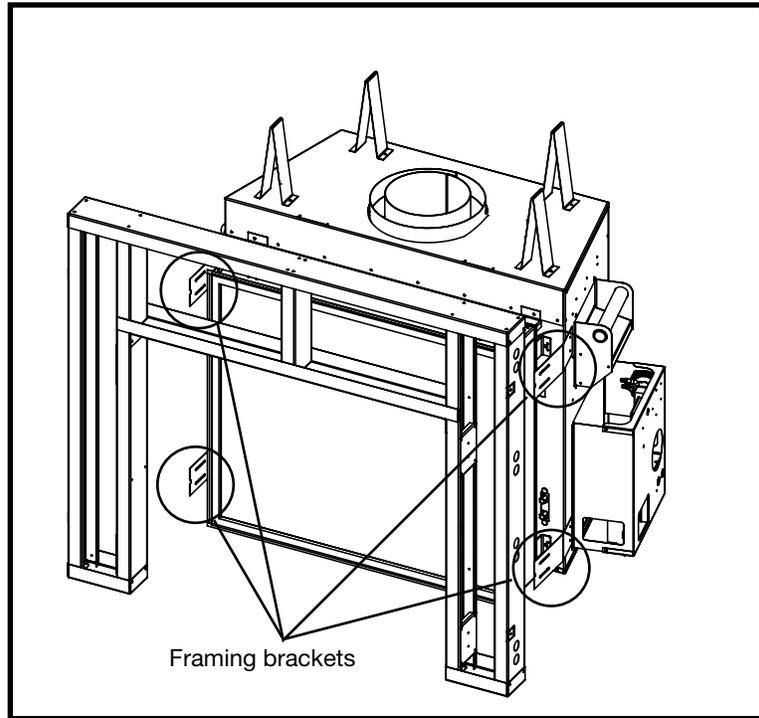

Figure 17: TC30 Framing brackets.
- Align the assembled frame to the unit framing brackets (Figure 17). Attach at the fastening points through the access holes in the outer side studs (3).
- Secure the frame assembly to existing framing through the stud header (5) and the stud plates (7).